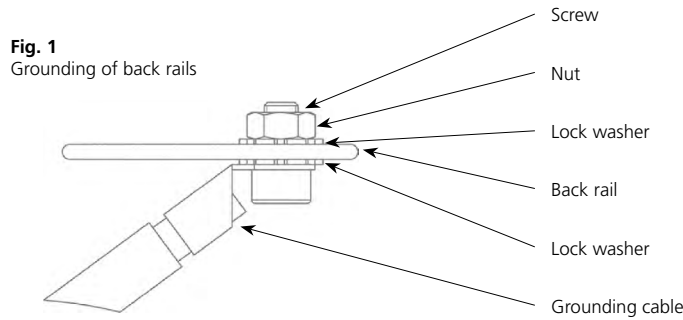

Fig. 2
- The optimal position of the SMART clamps is located in the middle of each mounting lip of the back rail and it is recommended for mounting by AVANCIS (figure 2). This provides the maximum stability against mechanical stresses. If there is a deviation from the middle position, the German general building approval Z-70.1-224 has to be considered regarding the resilience (at least in Germany). Further information can be obtained from AVANCIS or the DIBt (Deutsches Institut für Bautechnik).
- The four clamps must be positioned symmetrically on the four mounting lips, both with respect to the center of the module parallel to its long edge and to its short edge (see figure 2 for an example).
- The standard mounting of the “Hook-In” variant is shown in figures 2 and 3. Local building code requirements need to be observed. The grey areas in figure 3 indicate the permitted positions of the SMART clamps.